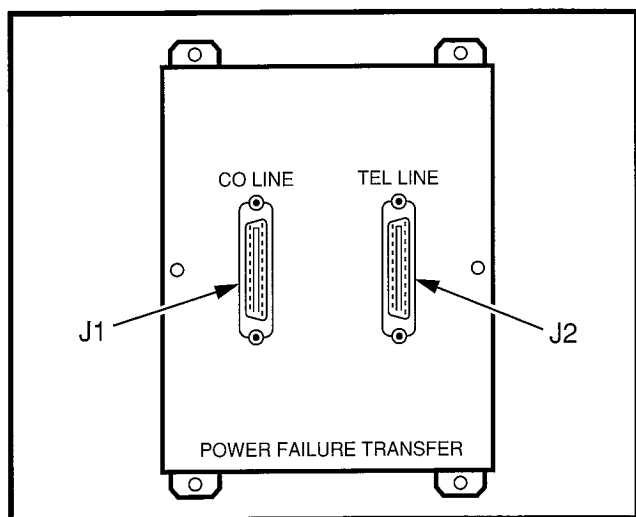

FIGURE 2-8—POWER FAILURE TRANSFER UNIT (DPFT)
5.00 The Power Failure/Emergency Transfer Unit (DPFT) provides an optional means of ensuring uninterrupted telephone operation in the event of a power failure. The DPFT (Figure 2-8) automatically connects selected CO lines to standard telephone lines in the event of a power failure, while